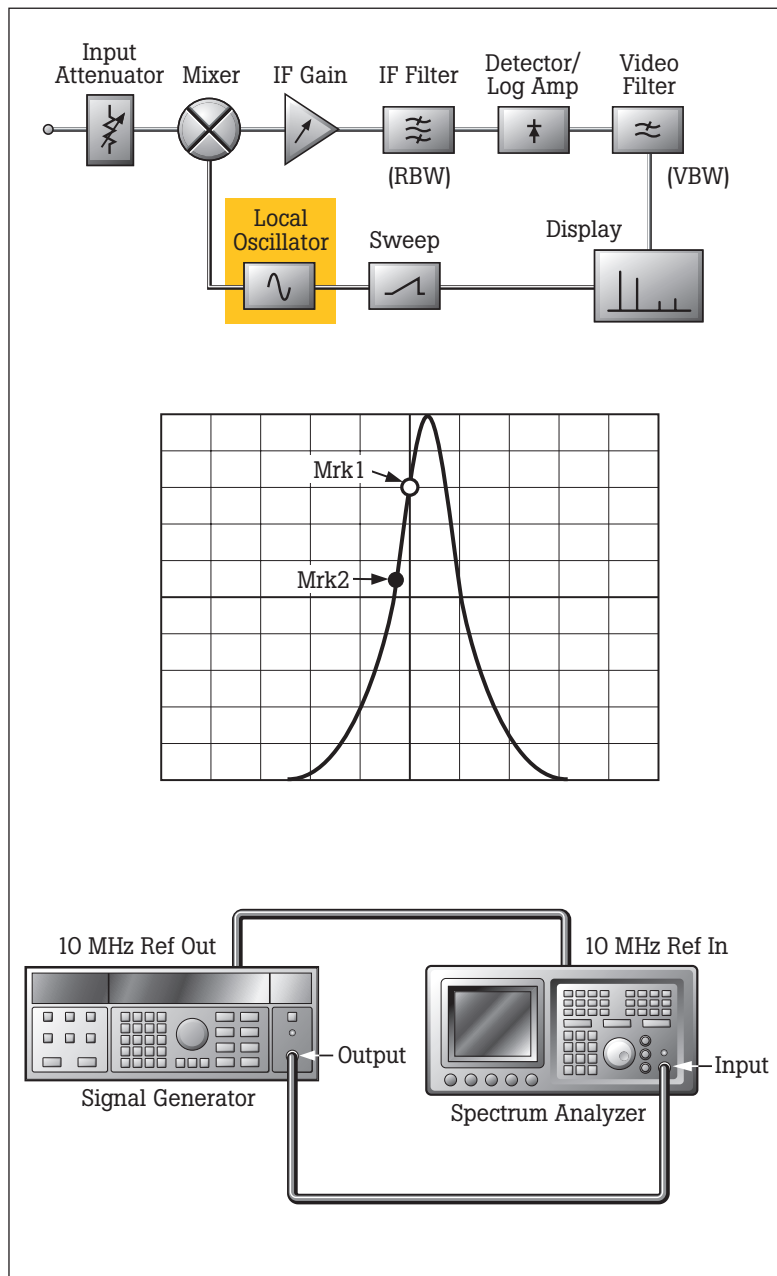

Figure 11. Residual FM test.
This test, shown in Figure 11, measures the residual FM caused by inherent short-term instability of the analyzer's local oscillator system, by using the linear part of the analyzer's IF filter response as an FM demodulator. The test first determines the slope of the IF filter (demodulation sensitivity) in Hz/dB and then measures the signal amplitude variation caused by the residual FM. Multiplying these two values yields the residual FM in Hz. Note that the equipment setup for this test is the same as that for the noise sideband test.
To determine the demodulation sensitivity, set both the spectrum analyzer center frequency and the signal generator output frequency to the value specified by the manufacturer (typically 1 GHz). Now set the span per division, filter bandwidth, and video filter to the manufacturer-specified values. Next, adjust the displayed signal so that the linear portion of the displayed response coincides with the center frequency, as shown in Figure 11, and note the marker-delta readout. Calculate the demodulation sensitivity (D), dividing the displayed marker delta frequency in Hz by the marker delta amplitude in dB, and record the result. For example, if the marker-delta frequency is 250 Hz and the marker delta amplitude is 4 dB, the demodulation sensitivity would be 62.5 Hz/dB.